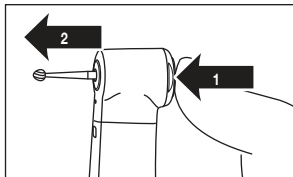

Fig. 4
- 2) Pull the bur from the head. (Fig.4)